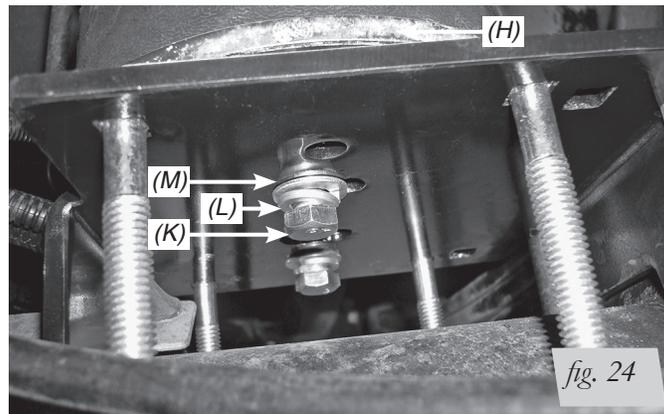

fig. 24
2. Looking below, line up the hole in the roll plate (H) with the bellows and attach using the 3/8" Hex Head bolt (K) lock washer (L) and flat washer (M) (Fig. 24). Repeat for the other mounting hole in the bracket. Since it will be hard to torque this bolt, unless using a crows foot wrench adapter, just tighten the hardware securely (no more than 20 lb.-ft.). Repeat for the other side.